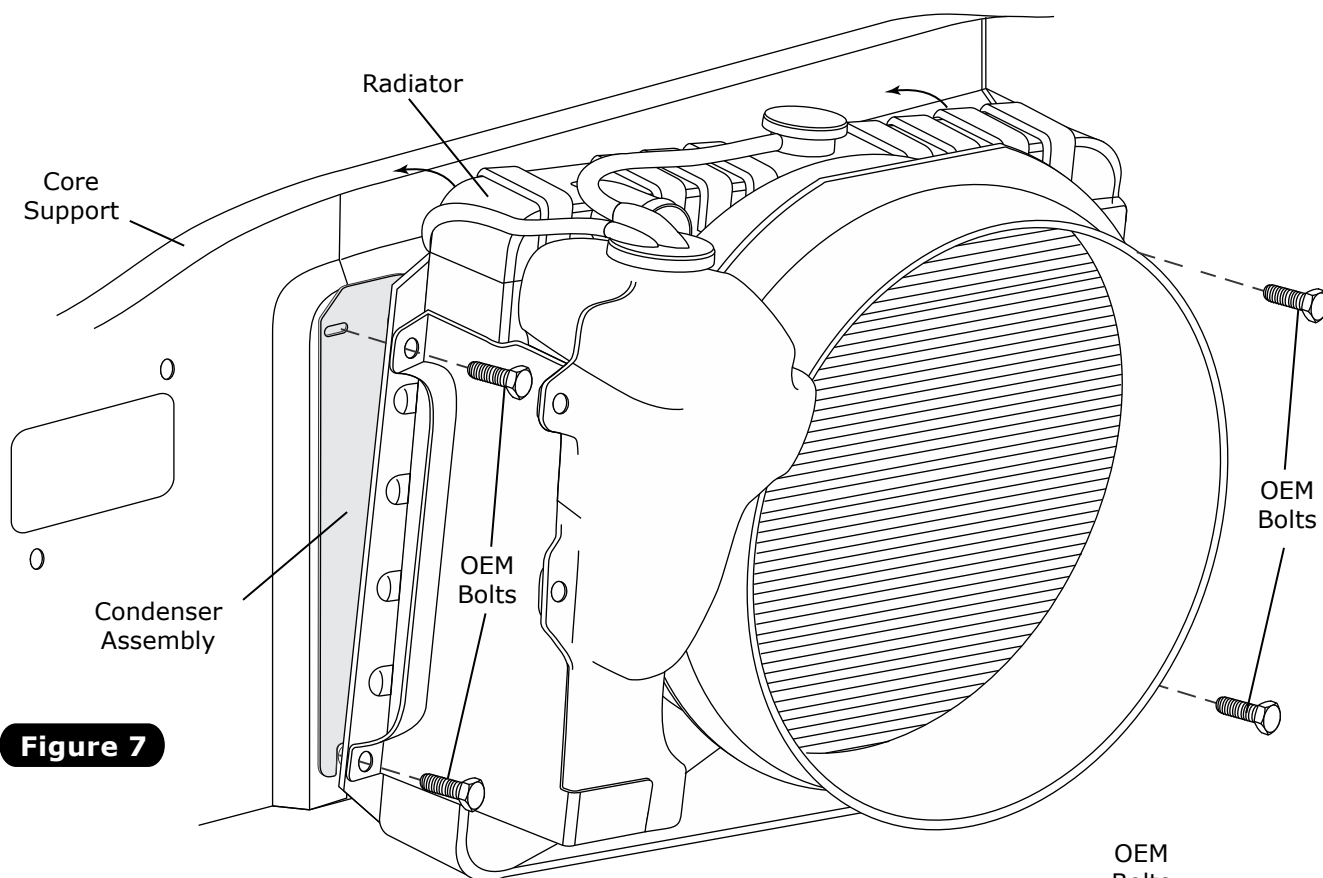

Figure 7
1. Using the OEM hardware, secure the condenser assembly between the radiator and the core support (See Figure 7, below).